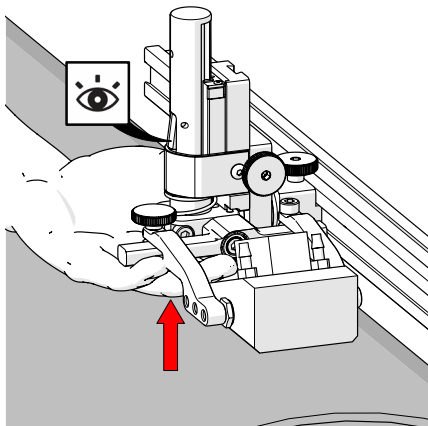
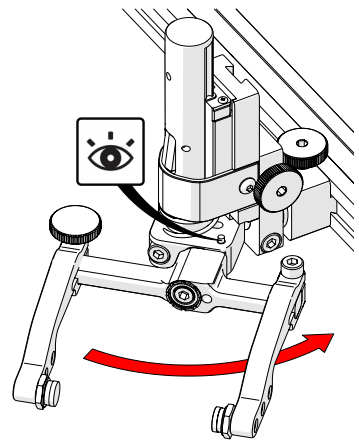

Fig. 118 - Latch probe holder
Fig. 124 - Stop post locates 90°
1. Ensure the probe holder is in the latched upper position. Do this by lifting the probe holder till the latch is fully exposed (Fig. 118).
1. Ensure the probe holder is in latched upper position (*Fig. 118*).
To return the transverse adjustment to neutral (90°). The probe holder must be in the latched, upper position (*Fig. 118*). Rotate the yoke until the stop post contacts the base of the probe holder (*Fig. 124*). Then tighten the transverse adjustment screw.
1. Ensure the probe holder is in latched, upper position (*Fig. 118*).
1. Ensure the probe holder is in latched, upper position (Fig. 118).